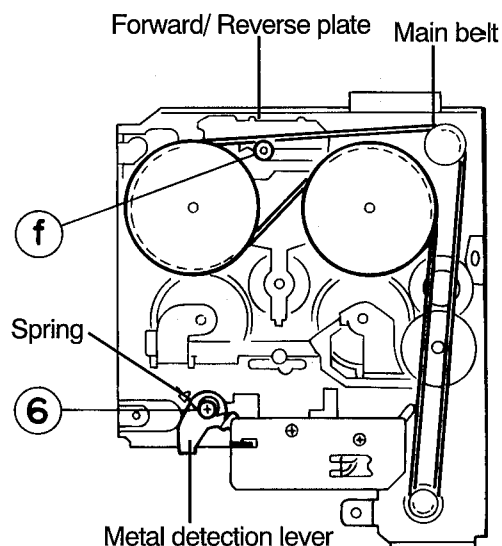

Fig. 8
■ Removing the Head Plate (See Fig. 8,9)
7. Remove the two screws (6) fixing the metal detection lever and removal spring as shown in Fig. 8.